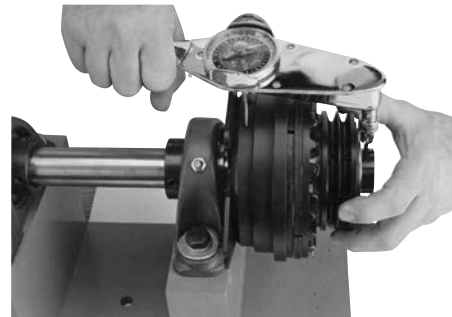

Figure 52
25. Tighten the hub setscrews onto the key (See Figure 52) to the appropriate torque for your size unit: